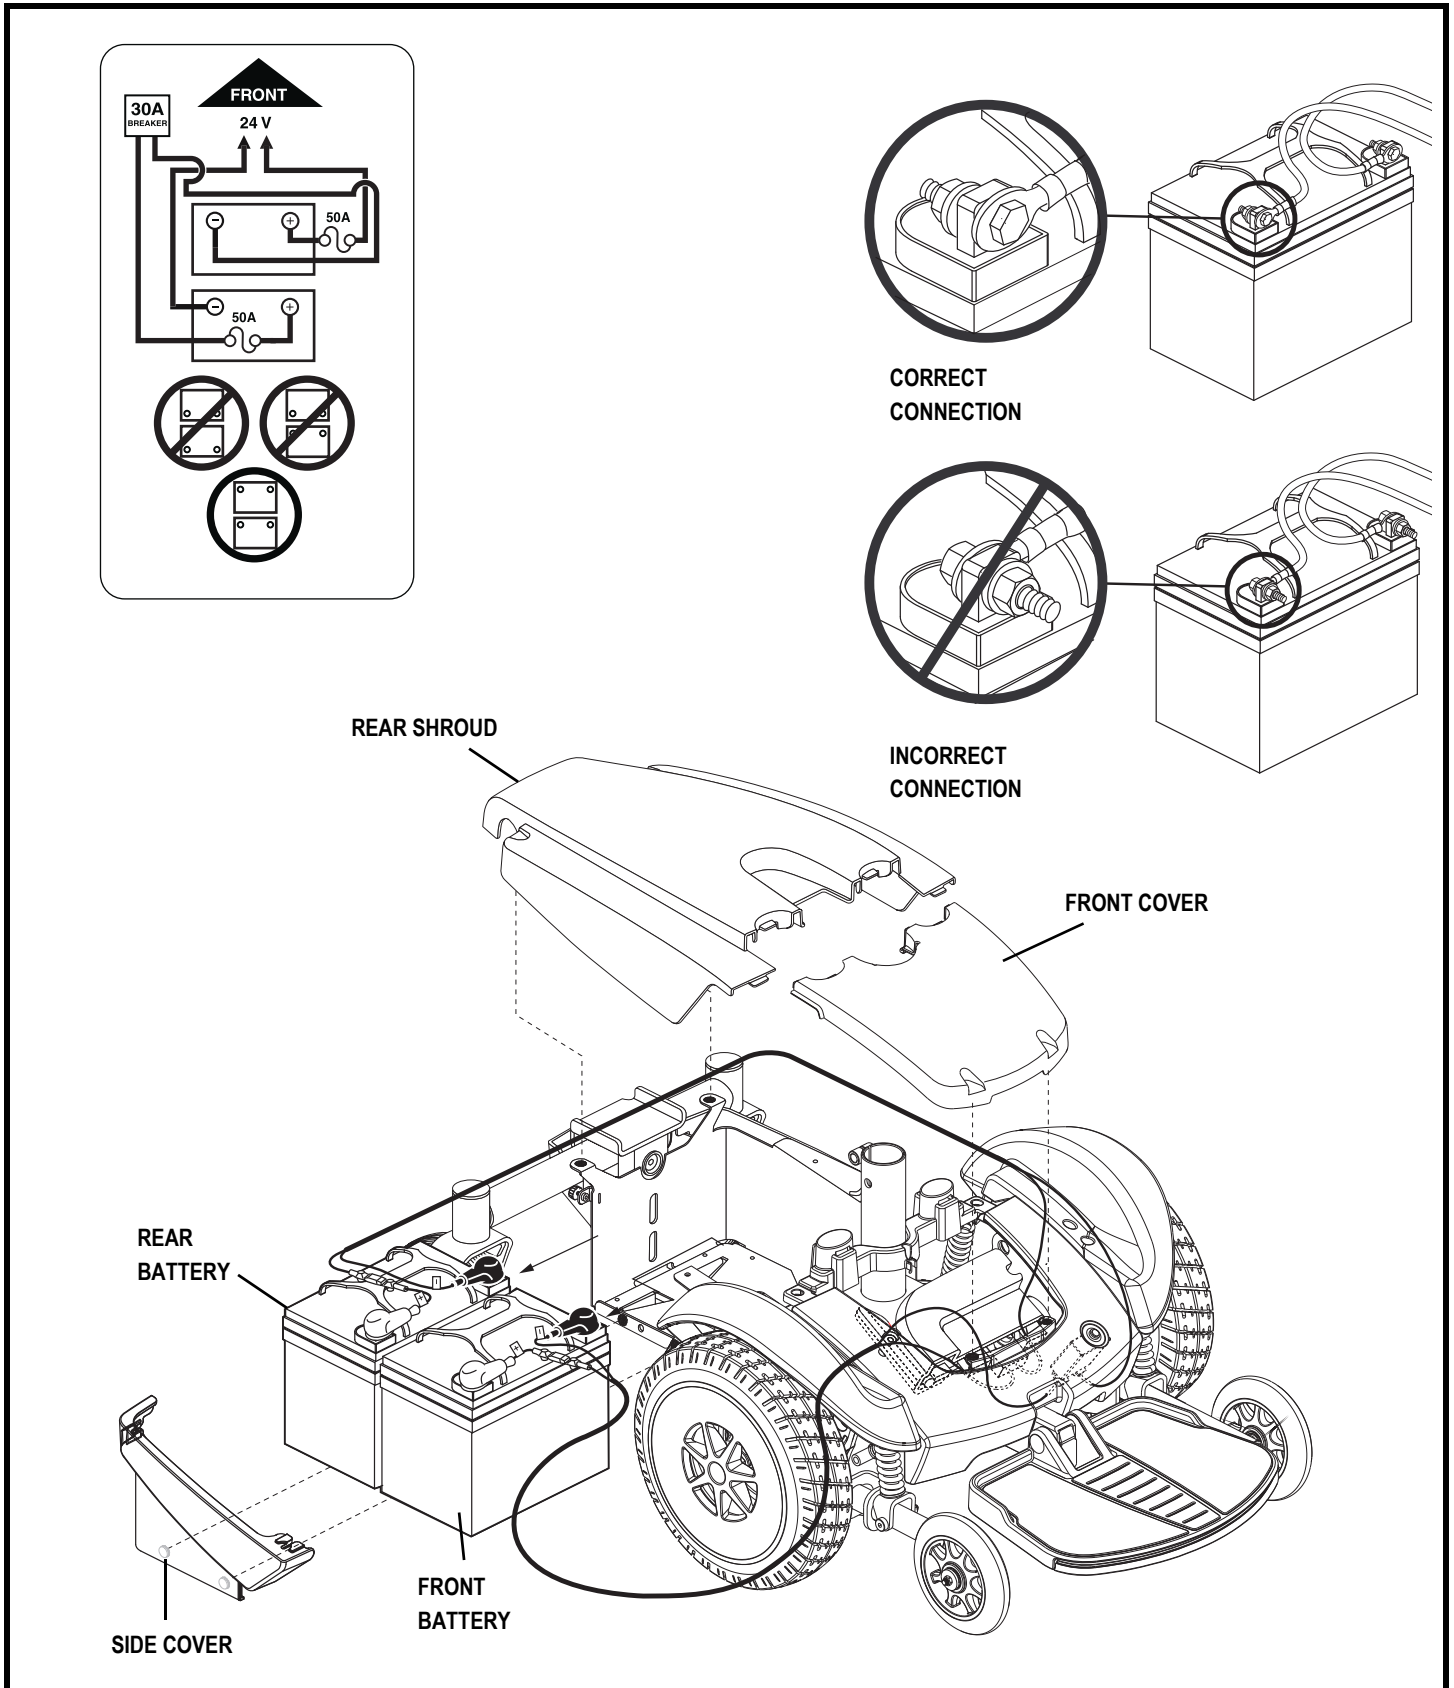

Figure 21. Battery Installation (Seat Removed for Clarity)
4. Remove the rear shroud. See figure 21.
6. Disconnect the rear battery cable from the rear battery terminals. See figure 21.
9. Disconnect the front battery cable from the front battery terminals. See figure 21.
11. Install the front battery cable onto the new battery terminals. Make sure that the hardware is facing the correct direction. See figure 21.
12. Place the front battery into the power base. Make sure that the terminals are facing the front of the power base. See figure 21.
14. Install the rear battery cable onto the new battery terminals. Make sure that the hardware is facing the correct direction. See figure 21.
15. Place the rear battery onto the power base. Make sure that the terminals are facing the front of the power base. See figure 21.